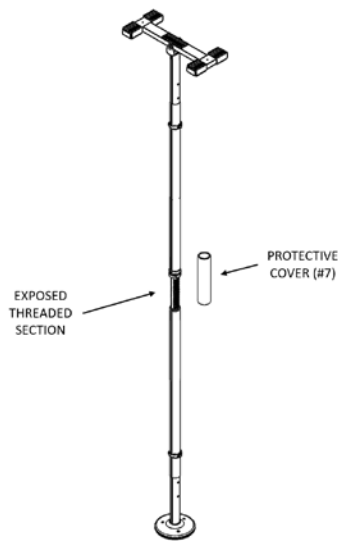

FIGURE 8
9. Secure PROTECTIVE COVER (#7) around exposed threaded area of THREADED ADJUSTMENT ASSEMBLY (#4) as shown in Figure 8.